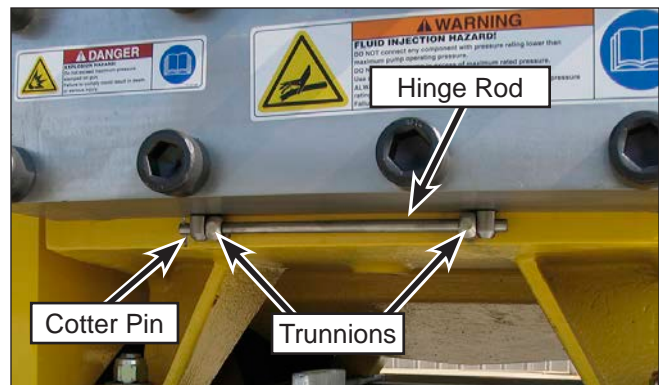

Figure 23: Hinge Rod, Trunnions, and Cotter Pin.
6. Remove the cotter pin (Figure 23) from the hinge rod and remove the rod.